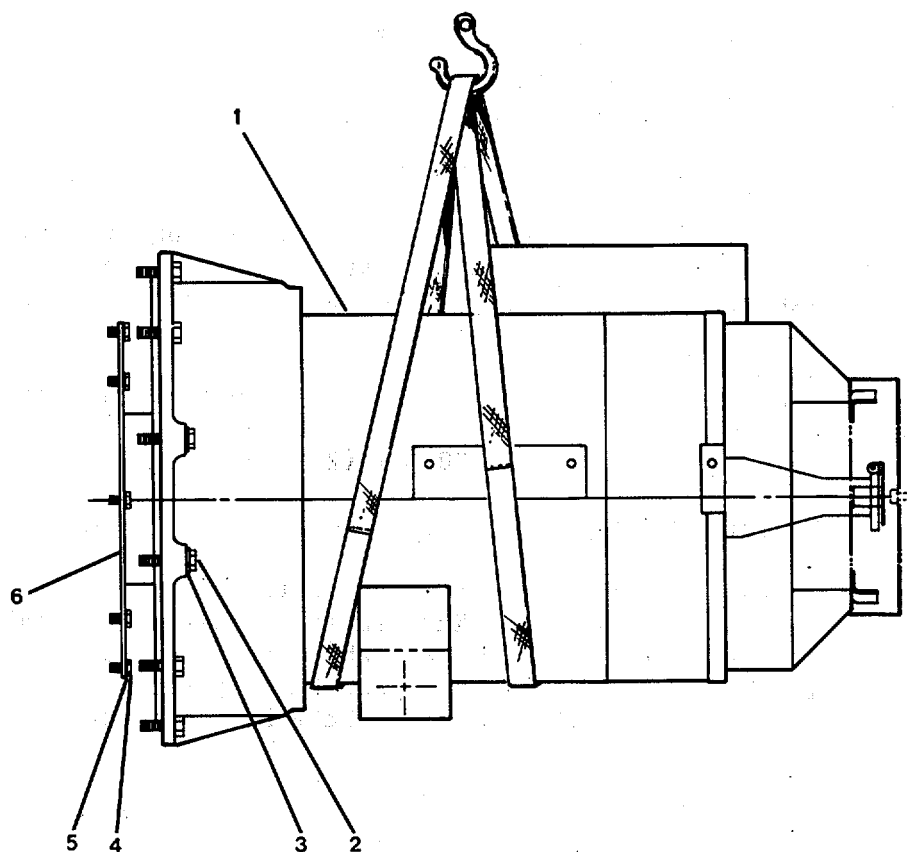
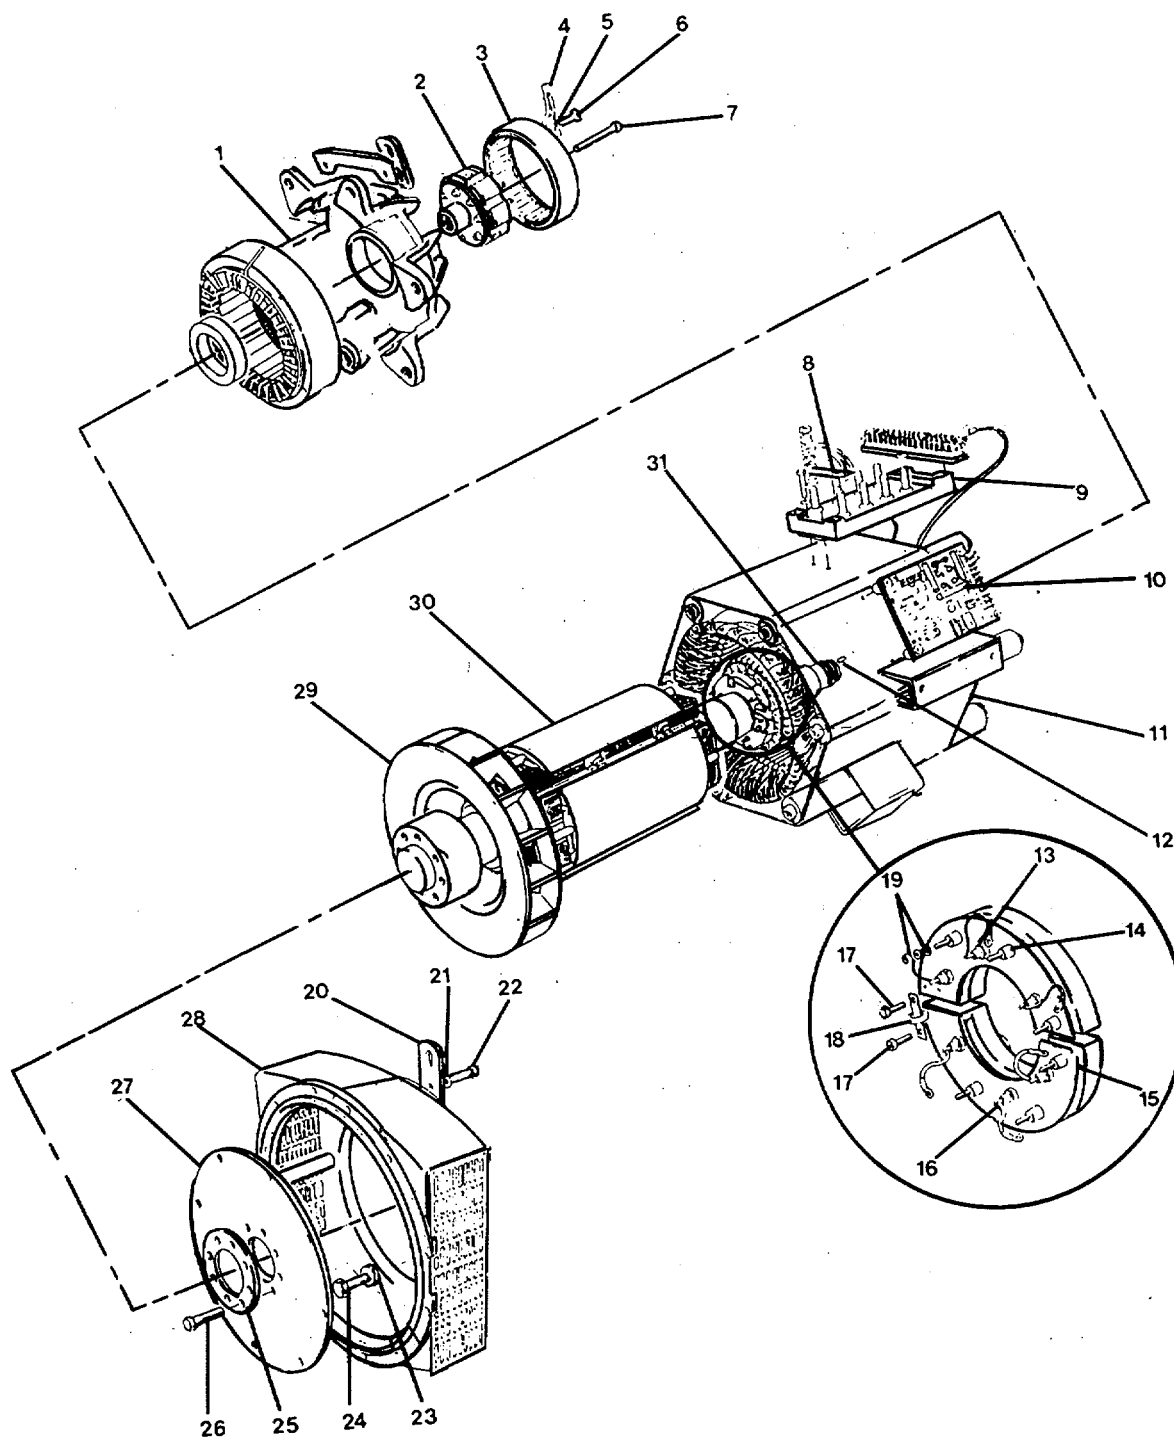

FIGURE 3-26. Generator Assembly Removal.
FIGURE 3-27. Generator Repair.
3-15. **Replace/Repair Generator Assembly.** (FIGURES 3-26 through 3-36)
Remove Generator. (FIGURE 3-26)
- (a) Remove machine bolt (7, FIGURE 3-27) from end of generator shaft (31).
- (b) Remove capscrew (6), lockwasher (5), and clamp (4).
- (c) Remove stator (3) and rotor (2) from excitor stator (1).
- (d) Remove machine key (12) from end of shaft (31).
- (e) Remove terminal link (8) from main terminal panel (9).
- (f) Remove voltage regulator (10).
- (g) Remove machine screws (26) and pressure plate (25).
- (h) Remove capscrews (24), lockwashers (23), and coupling disk (27) from adapter (28).
- (i) Remove capscrew (22) and lockwasher (21) securing adapter to pad eye (20). Remove adapter (28).
- (j) Remove fan (29) and rotor assembly (30) from stator assembly (11).
- (k) Remove reverse polarity diode (13) and reverse rectifier (14).
- a. Install varistor (18, FIGURE 3-27) and secure with capscrews (17).
- b. Install forward rectifier (15) and forward polarity diode (16); torque nut and lockwasher (19) to 42 in-lb. (4.74 N-m).
- c. Install reverse polarity diode (13) and reverse rectifier (14); torque nut and lockwasher (19) to 42 in-lb. (4.74 N-m).
- d. Install rotor assembly (30) and fan (29) into stator assembly (11).
- e. Install adapter (28) to pad eye (20), secure with capscrew (22) and lockwasher (21).
- f. Install coupling disk (27) and secure with capscrews (24) and lockwashers (23).
- g. Install pressure plate (25) and secure with machine screws (26).
- h. Install voltage regulator (10).
- i. Install terminal link (8) on main terminal panel (9).
- j. Install machine key (12) in end of shaft (31).
- k. Install rotor (2) and stator (3) in exciter stator (1). Secure to exciter stator with clamp (4), lockwasher (5), capscrews (6), and bolt (7).
- m. Lift the generator into position so that the mounting holes in the coupling disc (27, FIGURE 3-27) and adapter (6, FIGURE 3-26) slide over the guide studs.
REPLACEMENT (FIGURE 3-26)